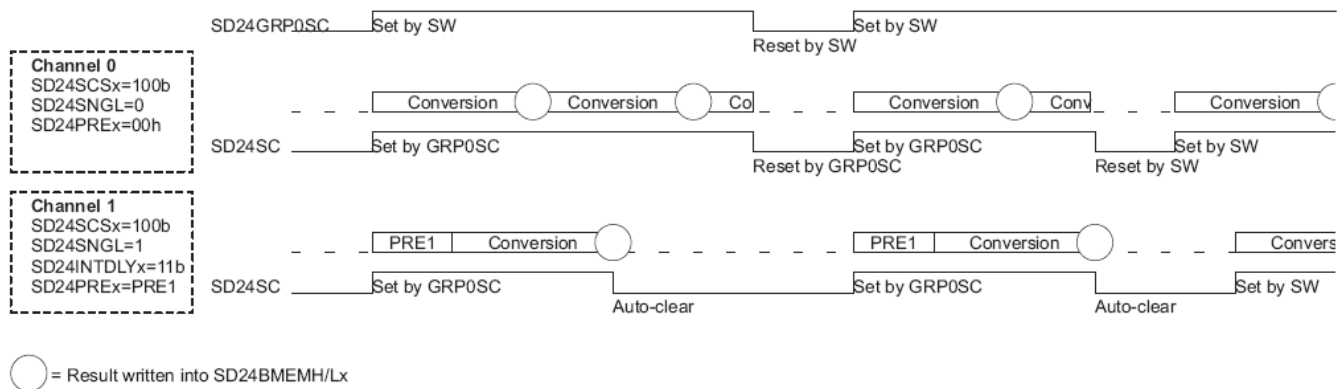

Figure 9. Phase Compensation Using PRELOAD Register
When a current transformer (CT) is used as a sensor, it introduces additional phase shift on the current signals. Also, the voltage and current input circuit's passive components may introduce additional phase shift. The relative phase shift between voltage and current samples must be compensated to ensure accurate measurements. The $\Sigma\Delta$ converters have programmable delay registers ($\Sigma\Delta 24PREx$) that can be applied to a particular channel. This built-in feature (PRELOAD) is used to provide the phase compensation required. Figure 9 shows the use of PRELOAD to delay sampling on a particular channel.